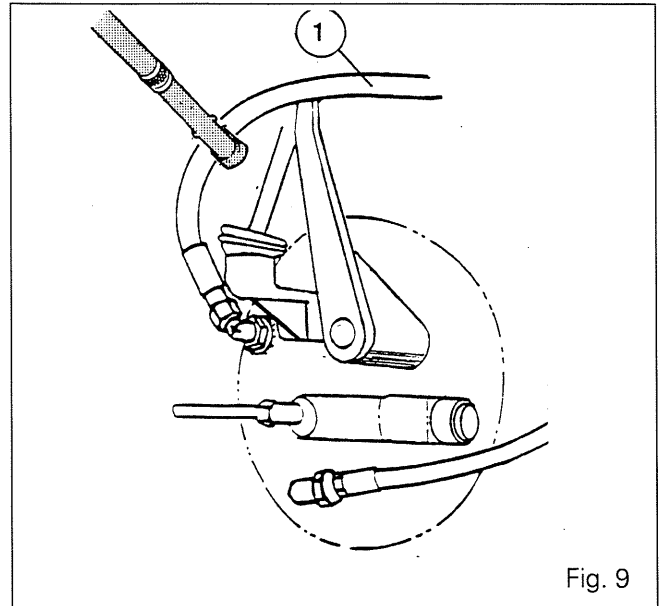

Fig. 9
4. Using a clamp and suitable protection, block the return hose **(1)** (Fig. 9).